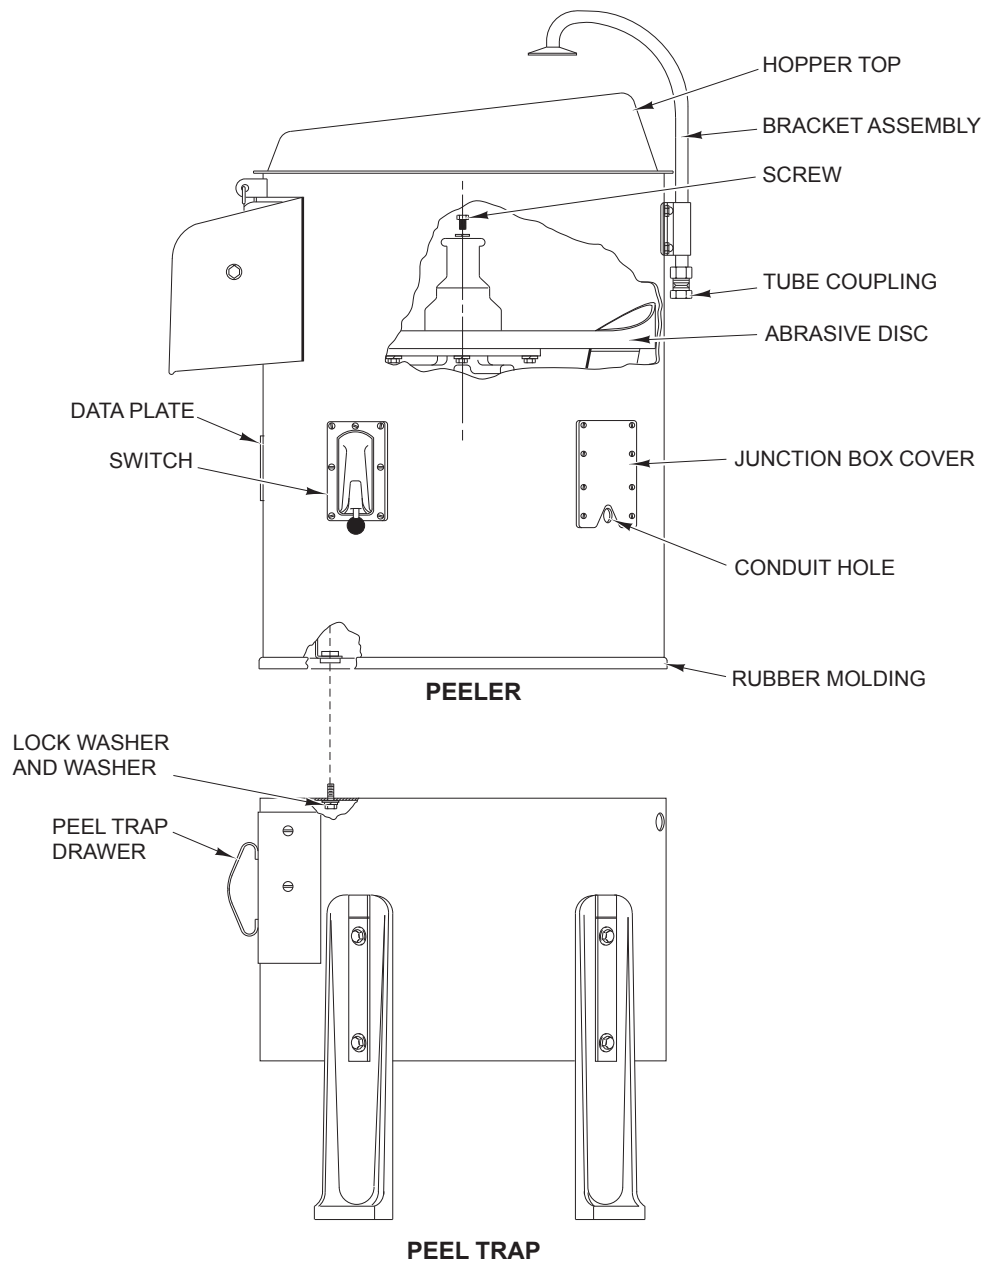

Fig. 1
| Peeler Unit (Fig. 1) .....                     | 4  |
## PEELER UNIT (FIG. 1)
It will be necessary to remove the peel trap drawer (Fig. 1) to allow enough room for attaching the legs.
The cloth bag shipped in peel trap drawer contains the capscrews, lockwashers and washers (Fig. 1) necessary for fastening the peeler to peel trap.
Using the supplied acorn nuts and gasket, attach the fill tube and bracket assembly (Fig. 1) to the peeler.
Connect a cold water supply to the 1/2" fill tube coupling (Fig. 1).
Before making electrical connections, check the specifications on peeler data plate (Fig 1), as well as those of the disposer (where applicable), to assure they agree with those of your electrical service.
If it is desired to move the switch (Fig. 1) or timer to the opposite side of the discharge chute, simply remove the screws that attach the switch or timer and cover plates. Interchange the switch or timer and cover plates and fasten each with the screws.
A 7/8" conduit hole (Fig. 1) is provided in the peeler housing for 1/2" trade size electrical conduit. Remove the junction box cover (Fig. 1), make electrical connections and replace the cover.
A separate junction box (Fig. 1) is provided for making disposer connections.
Lift out the abrasive disc (Fig. 1), which is NOT fastened to the shaft and scrub it with a brush and mild soap. Clean the housing beneath the abrasive disc with mild soap and water.
**NOTE:** If the abrasive disc should stick and is NOT easily removed, it may be loosened by removing the hex head screw (Fig. 1) on top of the hub and threading a longer screw (such as  $5/16$ "-18 x  $1\frac{1}{2}$ ") in until disc loosens.